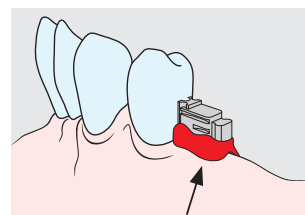

Fig. 3
6. Block out undercuts on the attachment, e.g. with soft wax (Fig. 3).